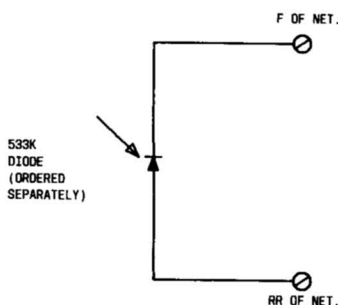

Fig. 5—Installing Diode for Dial Restriction
- (1) 830-Type Telephone Set:
- (a) Install a 533K diode between terminals RR and F of the network as shown in Fig. 5.
- (2) 2830-Type Telephone Set:
Note 1: Rotary dial telephone sets must have a 533K diode (ordered separately), installed between RR and F of the network see Fig. 5.